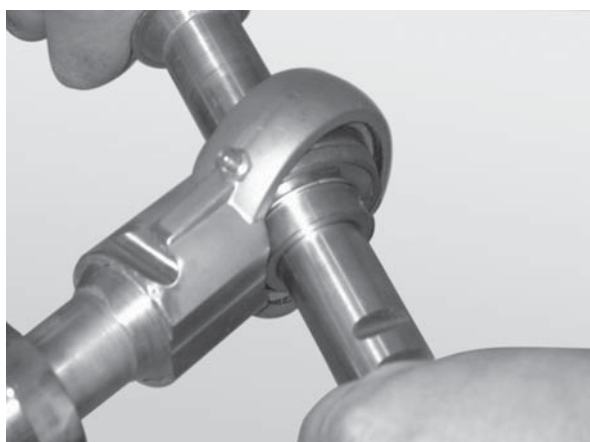

Figure 73
2. Insert the rod end of a second bearing shaft through the bearing (**Figure 73**).